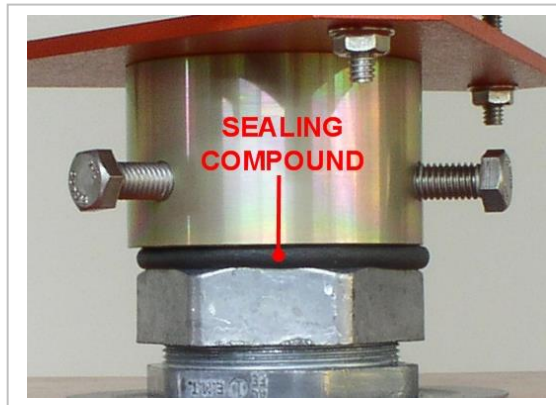

Figure 12
- Check co-mounted flash head sealing. There should be a continuous bead of sealing compound between the housing hub and the EMT compression nut as shown in Figure 12. Use Gardner-Bender DS 110, or similar, Duct Seal when repairing or replacing.